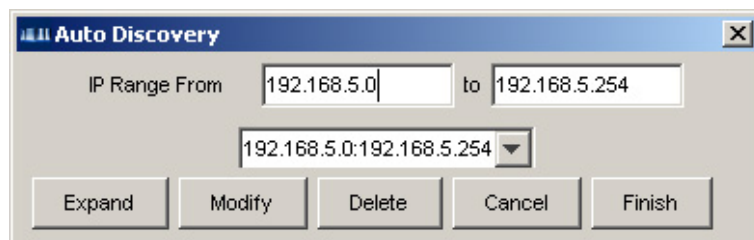

Figure 4-49: Auto Discovery Dialog Box
**Step 2.** Double-click on the current value under **IP scan range** row to open the Auto Discovery dialog box. (See *Figure 4-49*)